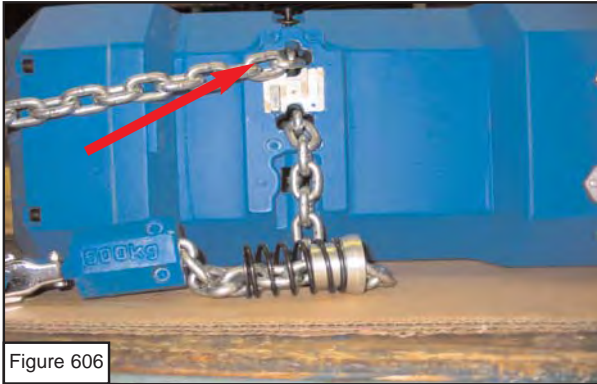

Figure 606
- 1) The paddle limit switch is located on the bottom of the hoist (Figures 606 & 607) where the chain enters and exits the hoist. It requires no adjustment.
Refer to Figure 606 during the procedure.